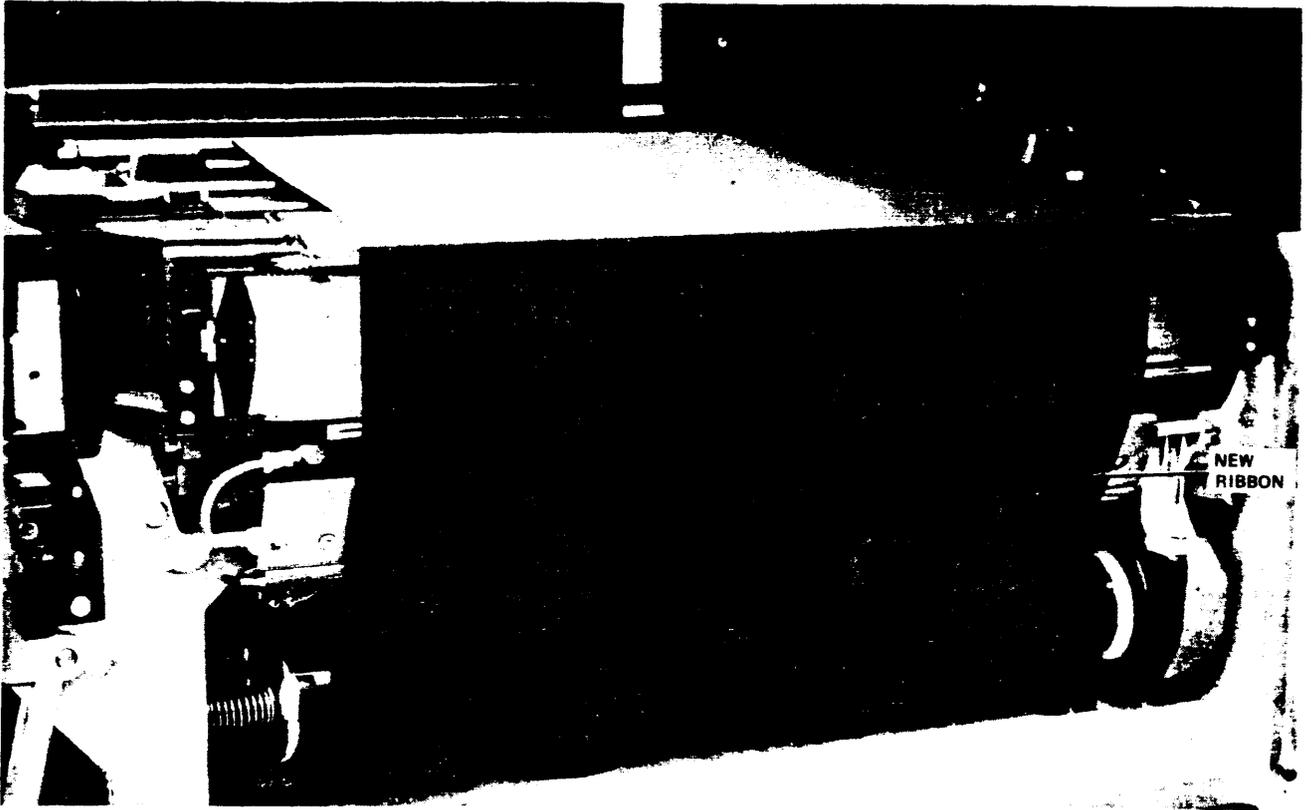

Figure C-36
8. Place second new ribbon spool on rear mandrel (Figure C-36).